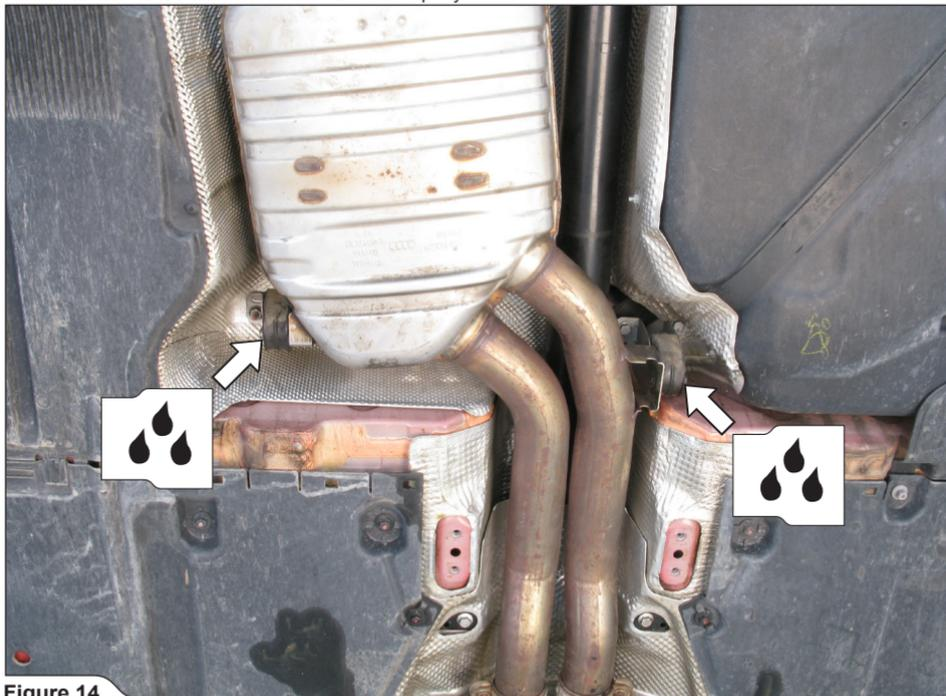

Figure 14
11. Carefully pull the marked rubber brackets off the exhaust system (Figure 14).